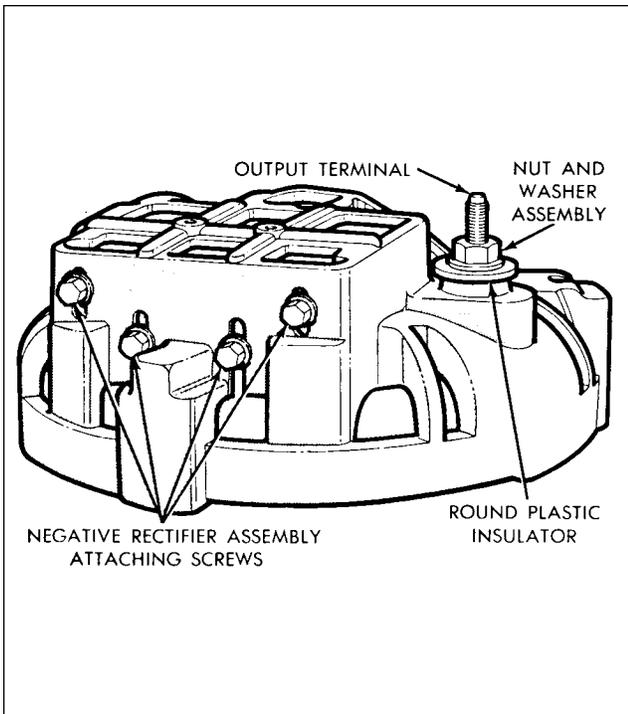

Figure 24-10. Rectifier and Heatsink
**REMOVAL OF RECTIFIER AND HEATSINK ASSEMBLY.** (Refer to Figure 24-10.)